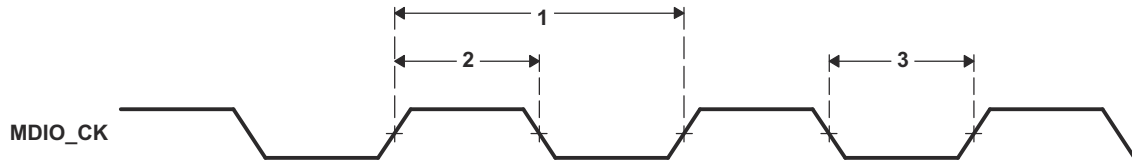

图 7-40. MII Serial Management Timing
7.11.6.4.1 Switching Characteristics Over Recommended Operating Conditions (Unless Otherwise Noted) for MDIO_CK (see 图 7-40)